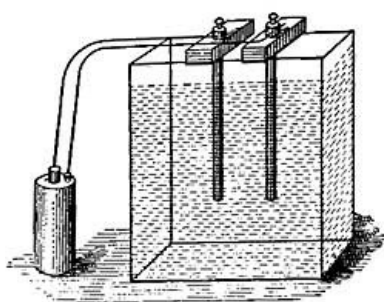

FIG. 208.—Carbon rods in a solution of copper sulphate.
**293. Chemical Effects.** *The Plating of Gold, Silver, and Other Metals.* If strips of lead or rods of carbon are connected to the terminals of an electric cell, as in Figure 208, and are then dipped into a solution of copper sulphate, the strip in connection with the negative terminal of the cell soon becomes thinly plated with a coating of copper. If a solution of silver nitrate is used in place of the copper sulphate, the coating formed will be of silver instead of copper. So long as the current flows and there is any metal present in the solution, the coating continues to form on the negative electrode, and becomes thicker and thicker.